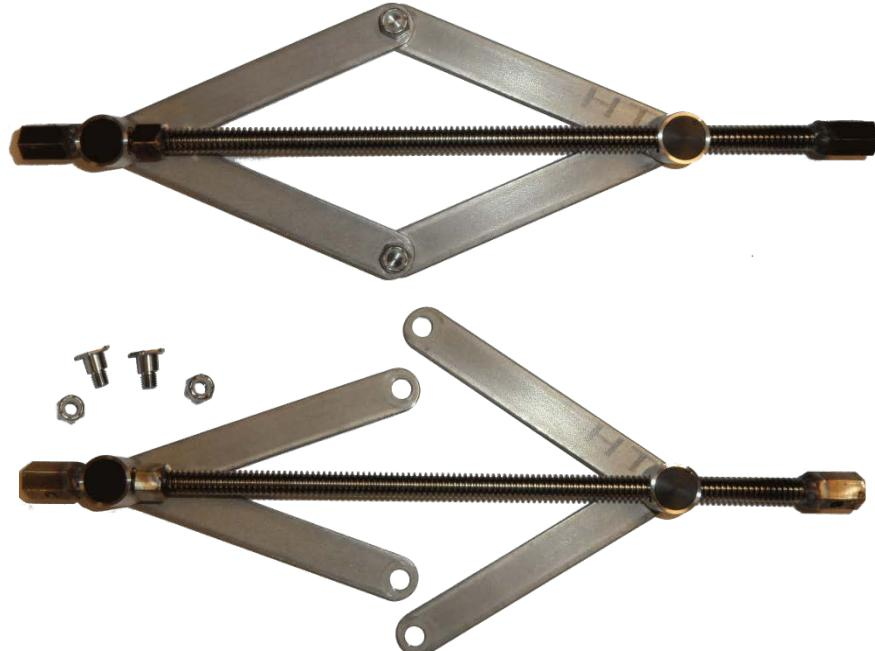

Figure 10. Opening the Scissor Jack
- Start by removing the two nuts and screws from the Scissor Jack to release the two arms (Figure 10).